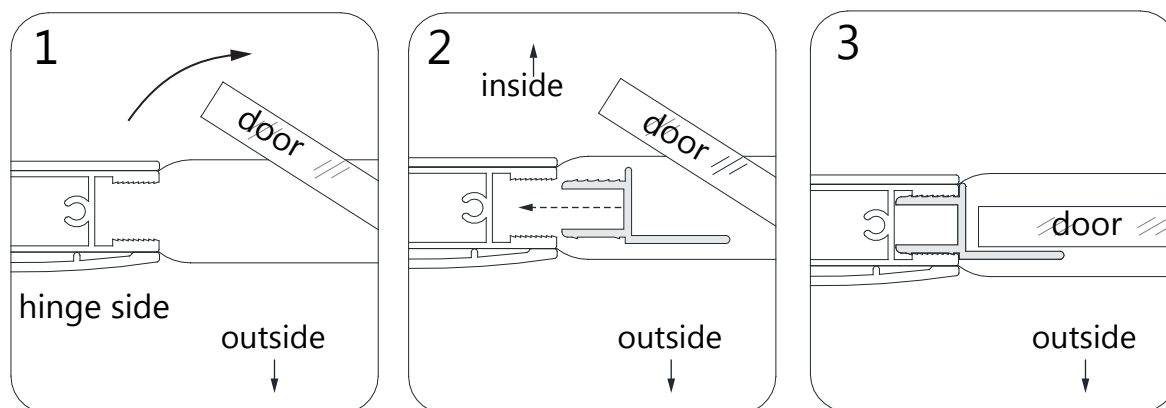

Fig 10
10. Firmly push the shorter Snap-In Anti-Water Strip (#10) into the vertical groove of the **Glass Profile for Door Glass (#02)**. (Fig 10)
- When installing the single door model, use both of the **Snap-In Anti-Water Strips (#10)** (Fig 10 & Fig 11) included with the **Door Glass** that snap into the **Glass Profiles**, (snap the shorter one into the hinge side glass profile and the longer one into the strike side glass profile).